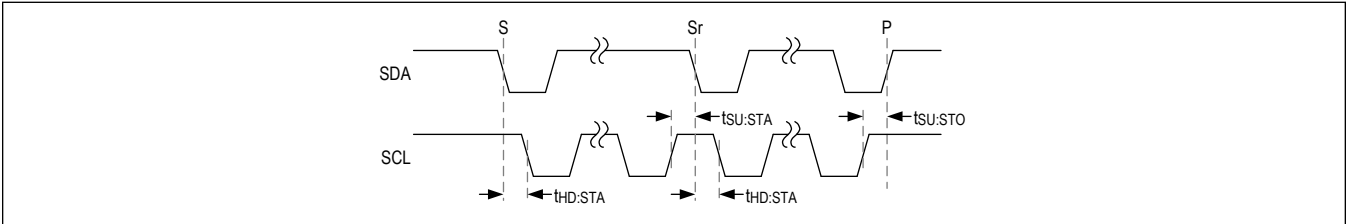

Figure 6. START, STOP and REPEATED START Conditions
A master device initiates communication by issuing a START condition. A START condition is a high-to-low transition on SDA with SCL high. A STOP condition is a low-to-high transition on SDA while SCL is high (Figure 6). A START (S) condition from the master signals the beginning of a transmission to the MAX20461. The master terminates transmission, and frees the bus, by issuing a STOP (P) condition. The bus remains active if a REPEATED START (Sr) condition is generated instead of a STOP condition.